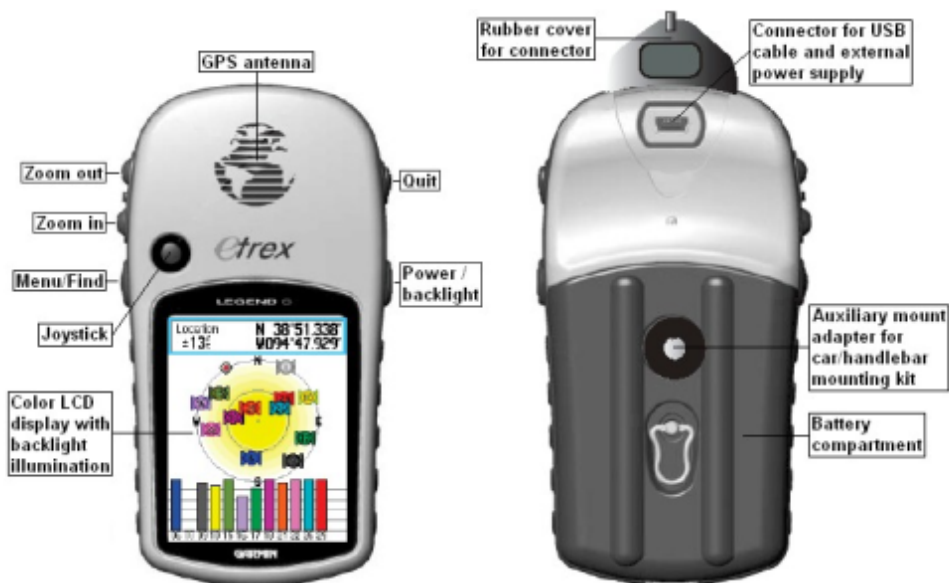

Figure 1: GPS location of buttons
8. If a second person is available to help place, they can start at the 180 degree radii and place in the same manner as step #3-7. (See Figure 1)
9. Finally, four traps will be placed facing outwards at the base of central metal stake. (See Figure 1)
1. Hold the power Key (see Figure 1)